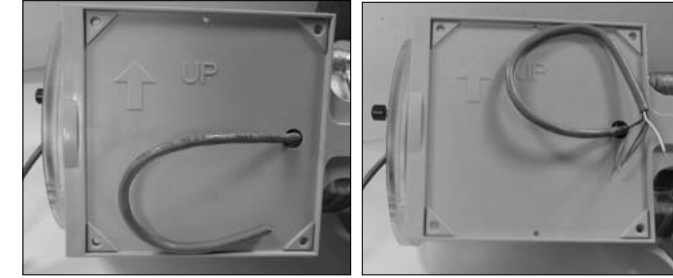

Figure 11.9 - Cut the AMR cable Figure 11.10 - Remove vinyl
- Cut the cable and remove the vinyl, which will make for a cleaner and easier installation. Be sure not to damage the wires when removing vinyl cover. See Figures 11.9 and 11.10. **Leave some cable available for any future changes to the AMR device.**